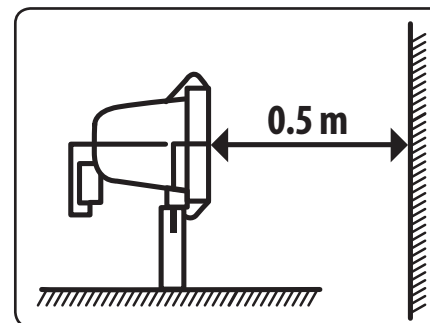
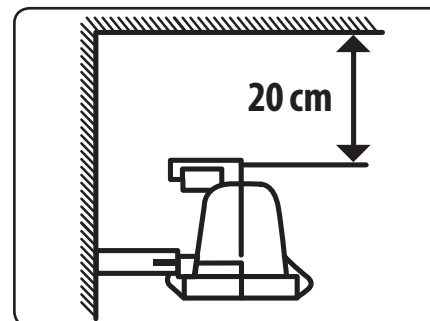

Fig.4
Fig.5
- In the case when the floodlight is mounted to a base using screws, mount it 1-3 m above the ground. The direct distance from the illuminated object should be at least 0.5 m (Fig.4). When the floodlight is mounted in a corner then it must be at least 20 cm away from the ceiling (Fig.5). The same applies when using the floodlight as a portable light source.